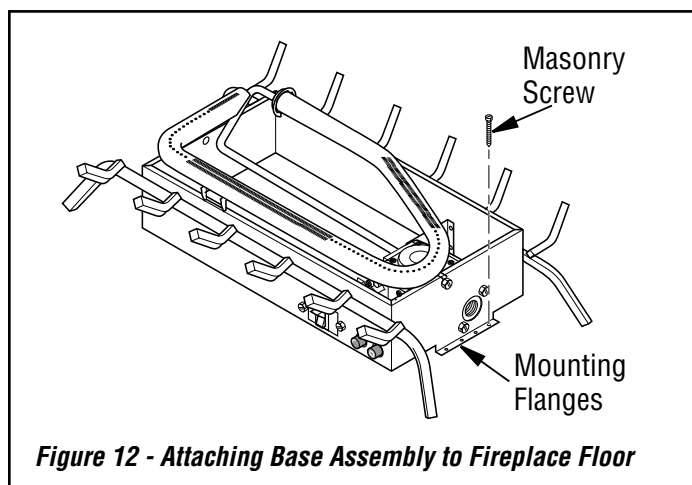

Figure 12 - Attaching Base Assembly to Fireplace Floor
7. Mark screw locations through one hole on each side of mounting bracket (see **Figure 12**). If installing in a brick bottom fireplace, mark screw locations in mortar joint of bricks.